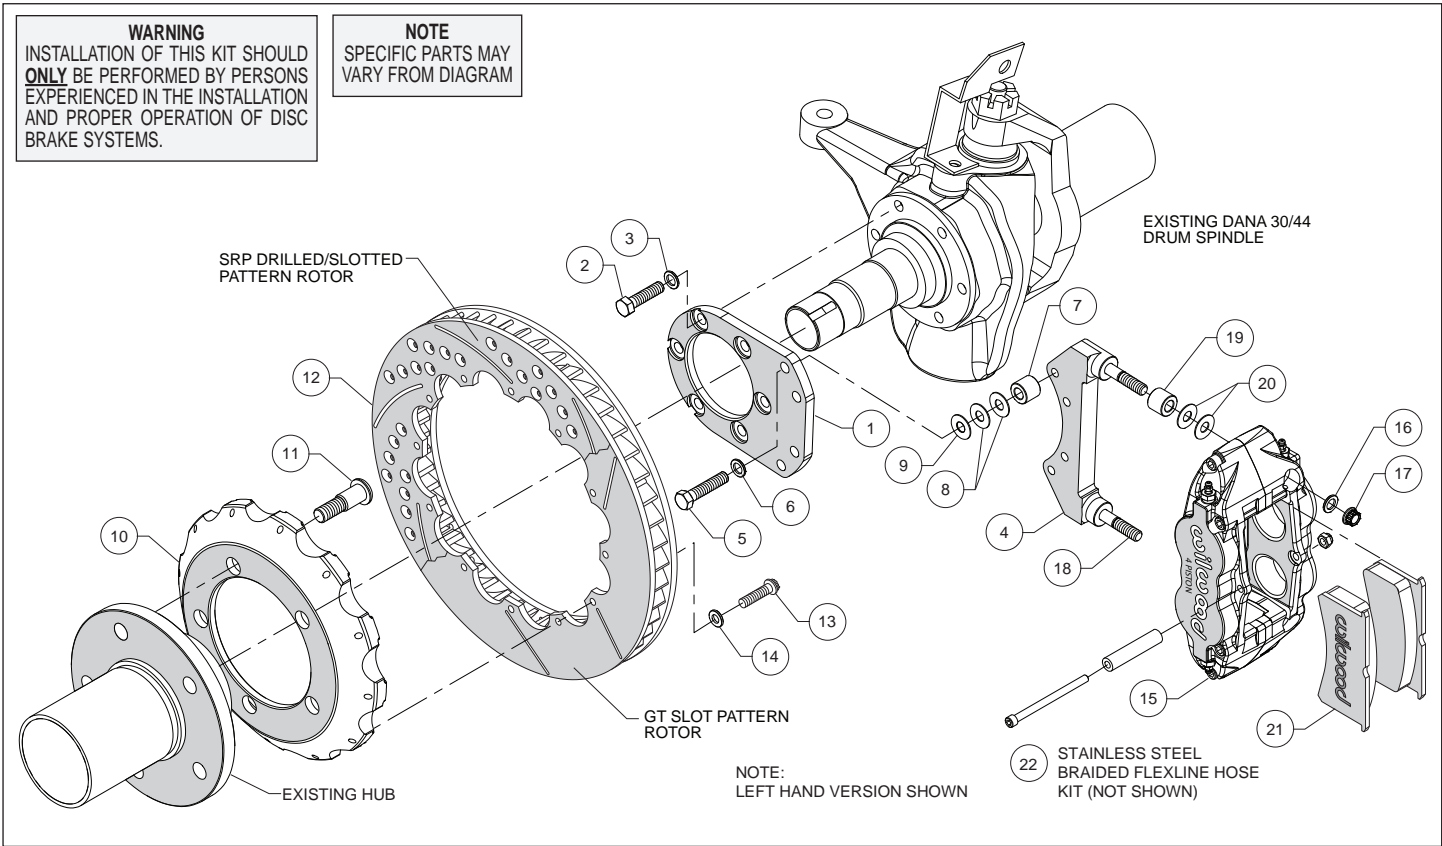
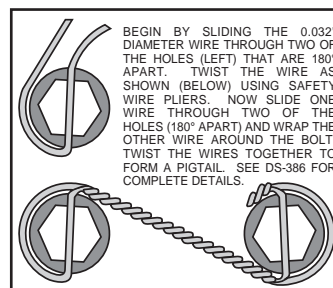

Figure 1. Typical Installation Configuration
Figure 3. Safety Wire Diagram
Assembly Instructions (numbers in parenthesis refer to the parts list and Figure 1 on the preceding pages):
- Orient the flat mount bracket (1) as shown in Figure 1 and Photo 1, and install using bolts (2), and washers (3). Ensure that the counterbored holes in the bracket are facing outboard, Figure 1. Temporarily tighten the mounting bolts. **NOTE:** *The bracket must fit squarely against the mount bosses on the upright.* Inspect for interference from casting irregularities, machining ridges, burrs, etc. Remove bolts one at a time, apply red *Loctite*[®] 271 to the threads and torque to 40 ft-lb.
- The caliper mount bracket (4) should initially be installed with clean, dry threads on the mounting bolts. Orient the bracket as shown in Figure 1 and Photo 2, and install using mount bolts (5) and washers (6). Initially place two .035" thick shims (8) and spacer (7) on each bolt between the flat and caliper brackets, Figure 1. Temporarily tighten the mounting bolts. Later, after the caliper alignment has been checked, the mount bolts will be secured using red *Loctite*[®] 271.
- Orient the hat (10) and the OEM hub as shown in Figure 1 and Photo 3. **NOTE:** *The hat must fit flush against the axle hub or excessive rotor run out may result.* Press fit the wheel studs (11) thru the holes in the hat and into the existing hub. **NOTE:** *We recommend this procedure be performed by a qualified machinist.*
- Orient the rotor (12) and the hat/hub assembly as shown in Figure 1 and Photo 4. Attach rotor to hat using bolts (13) and washers (14). Using an alternating sequence, apply red *Loctite*[®] 271 to the threads, and torque to 155 in-lbs. For an added measure of security, the bolts may be safety wired using standard 0.032 inch diameter stainless steel safety wire as shown in Figure 3.
- Lubricate the caliper mounting studs (18) with lightweight oil. Initially place two .035" thick shims (20) and spacer (19) on each stud as shown in Figure 1 and Photo 5. Mount the caliper (15) onto the bracket (4) using lock nuts (17) and washers (16), Figure 1. Temporarily tighten the lock nuts and view the rotor through the top opening of the caliper. The rotor should be centered in the caliper, Photo 6. If not, adjust by adding or subtracting shims (8 and/or 9) between the spindle bracket and caliper bracket. Always use the same amount of shims on each of the four mounting bolts. Once the caliper alignment is correct, remove the bracket to bracket mounting bolts (5) one at a time, apply red *Loctite*® 271 to the threads, and torque to 35 ft-lb.